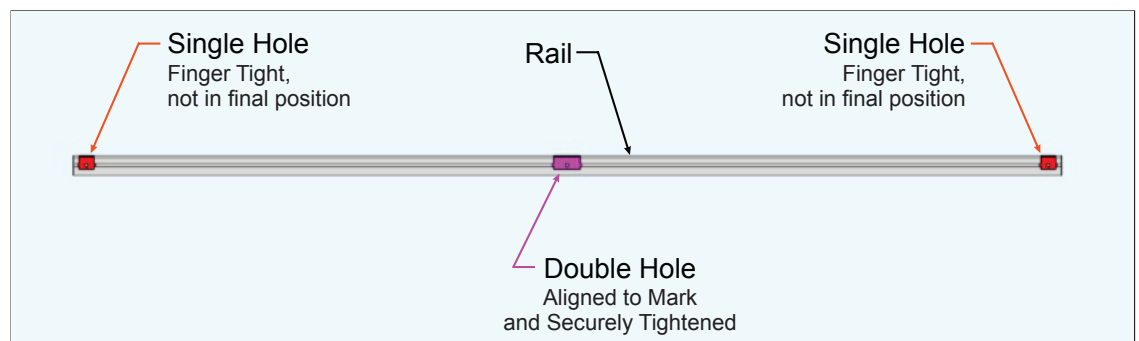

Figure 2-3: Slide Plate Positions
- A. As done previously, align the Slide Plate tabs and the head of the Track Bolt with the channel of the Rail, and slide inward. Hand tighten to keep them from sliding off the Rail during handling. (See Figure 2-3)